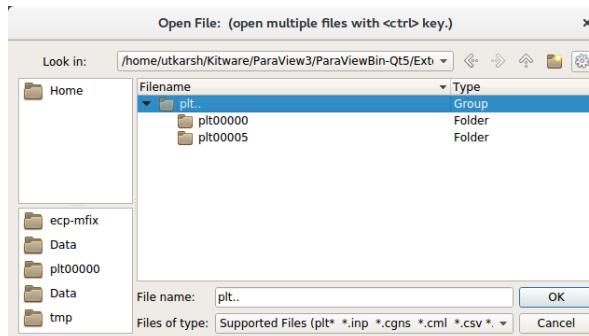

Fig. 16.2: : File dialog in ParaView showing a group of plotfile directories selected
2. Navigate to your run directory, and select the fluid or particle plotfile. Note that you can either open single/multiple plotfile(s) at once by selecting them one by one or select an ensemble of file, labelled as `plt..` and indicated as a Group in the “Type” column of the file explorer (see Fig. 16.2). In the later case, Paraview will load the plotfiles as a time series. ParaView will ask you about the file type – choose “AMReX/BoxLib Grid Reader” or “AMReX/BoxLib Particles Reader”.
1. Run ParaView v5.7, and select then “File” → “Open”. You will see a combined “plt.” group. Click on “+” to expand the group, if you want inspect the files in the group. You can select an individual plotfile directory or select a group of directories to read them a time series, as shown in Fig. 16.2, and click OK.